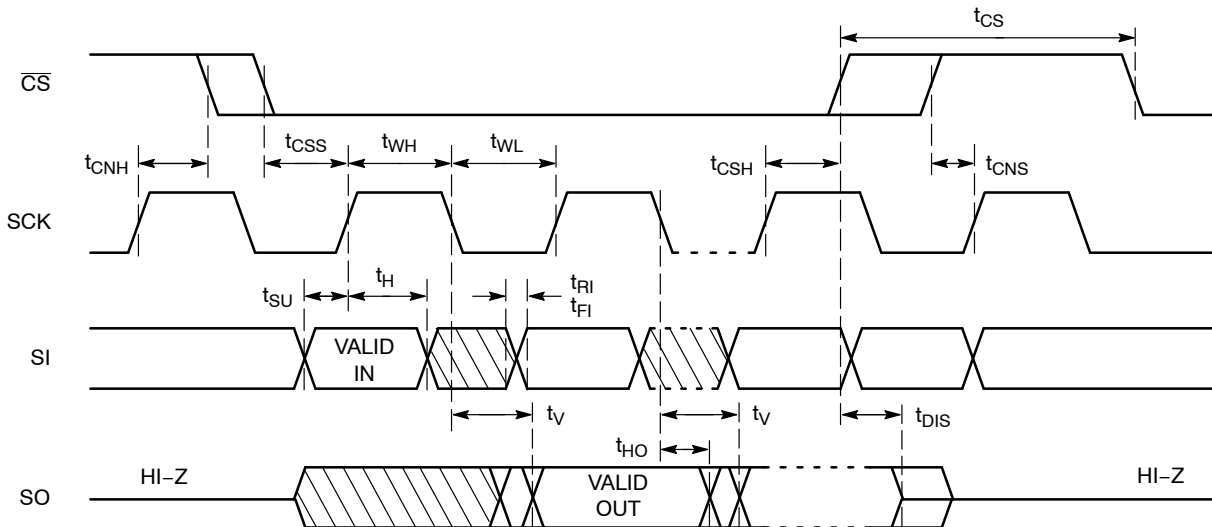

Figure 2. Synchronous Data Timing
9. **All Chip Select (CS) timing parameters are defined relative to the positive clock edge (Figure 2). t_{CSH} timing specification is valid for die revision C and higher. The die revision C is identified by letter “C” or a dedicated marking code on top of the package. For previous product revision (Rev. B) the t_{CSH} is defined relative to the negative clock edge.**
After a high to low transition on the \overline{CS} input pin, the CAT25256 will accept any one of the six instruction op-codes listed in Table 10 and will ignore all other possible 8-bit combinations. The communication protocol follows the timing from Figure 2.